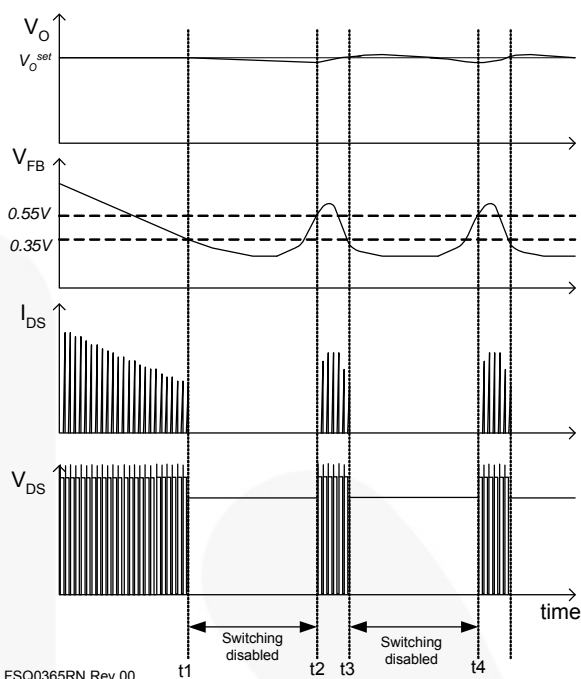

Figure 26. Waveforms of Burst Operation
6. Burst Operation: To minimize power dissipation in Standby Mode, the FPS enters Burst-Mode operation. As the load decreases, the feedback voltage decreases. As shown in Figure 26, the device automatically enters Burst Mode when the feedback voltage drops below V_{BURL} (350mV). At this point, switching stops and the output voltages start to drop at a rate dependent on standby current load. This causes the feedback voltage to rise. Once it passes V_{BURH} (550mV), switching resumes. The feedback voltage then falls and the process repeats. Burst Mode alternately enables and disables switching of the power SenseFET, reducing switching loss in Standby Mode.